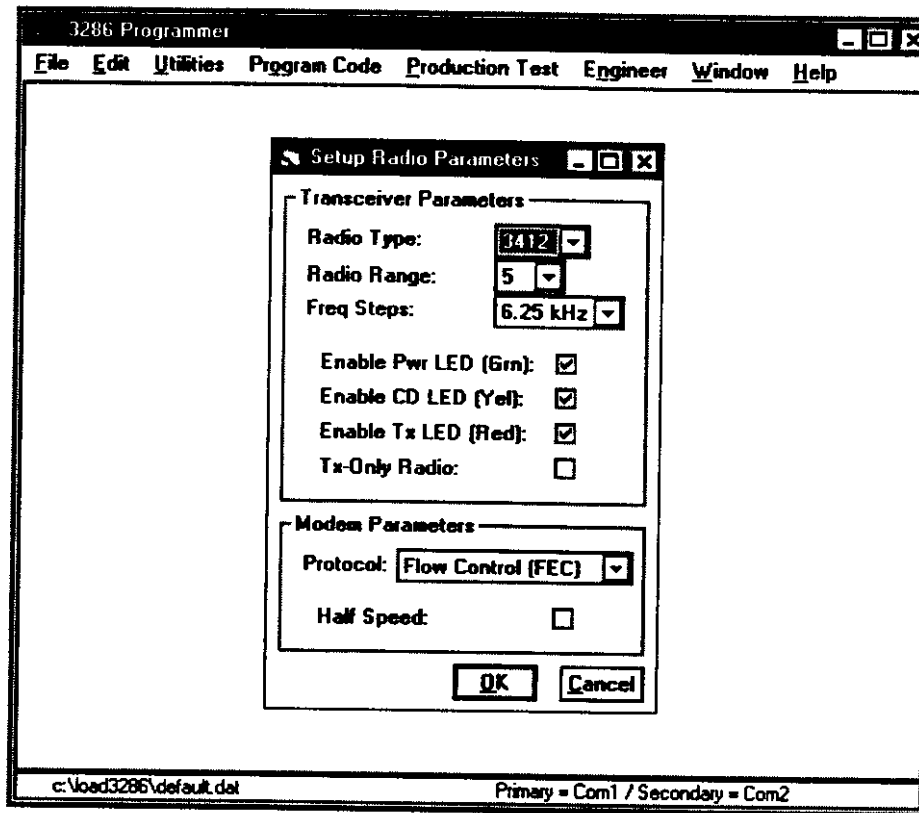

Figure 3-2 Edit Radio Types Window
- LED Functions - There are three LEDs on the 3286 modem. When there is power to the modem, the Power LED (green) will be lit. When the receiver is receiving a carrier, the CD LED (yellow) will be lit. When the transmitter is transmitting a signal, the TX LED (red) will be lit. These LEDs can be enabled by clicking next to each one (see Figure 3-2.)